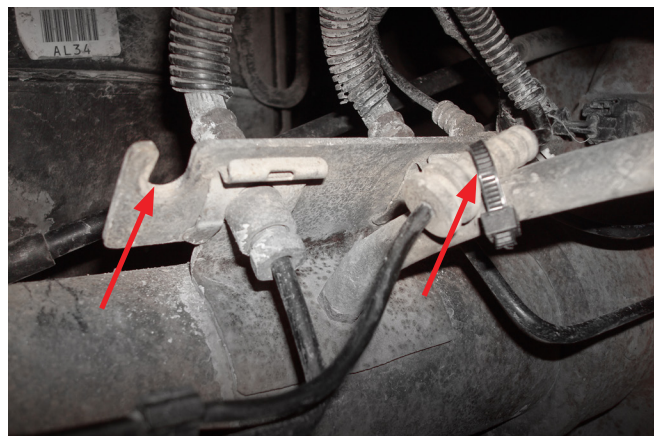

Fig. 6
- Remove the driver's (left) side ABS line off the ABS/brake line junction bolted to the axle (Fig. 6) and zip tie (BB) the ABS line to the axle vent tube.